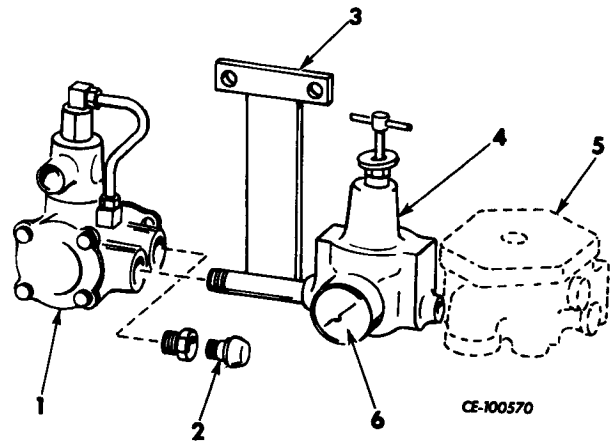

Figure 14-2 -
The modulator air system (refer to Fig. 14-2), consists of (1) a pressure regulator which reduces system pressure from 724-483 kPa (105-70 psi), (2) and air solenoid valve which controls air flow from the pressure regulator, and (3) a relay valve which channels air flow to the double check valve on the right treadle (for brake application) and to the transmission disconnect valve. A third air line between the double check valve and a top port on the left treadle allows (upon full application of either left or right treadle) full system air pressure 724 kPa (105 psi) to override the modulator application 483 kPa (70 psi) of the brakes and transmission disconnect valve.
Remove air pressure gauge (6, Fig. 14-2) from regulator body.
Thread air pressure gauge (6, Fig. 14-2) into regulator body.